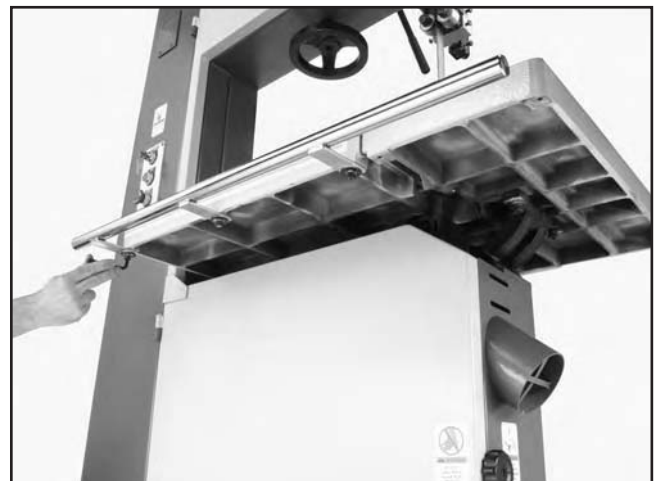

Figure 10. Tightening guard rail cap screws.
2. Flip the rail over and reinstall with the cap screws removed in **step 1 (Figure 10)**.